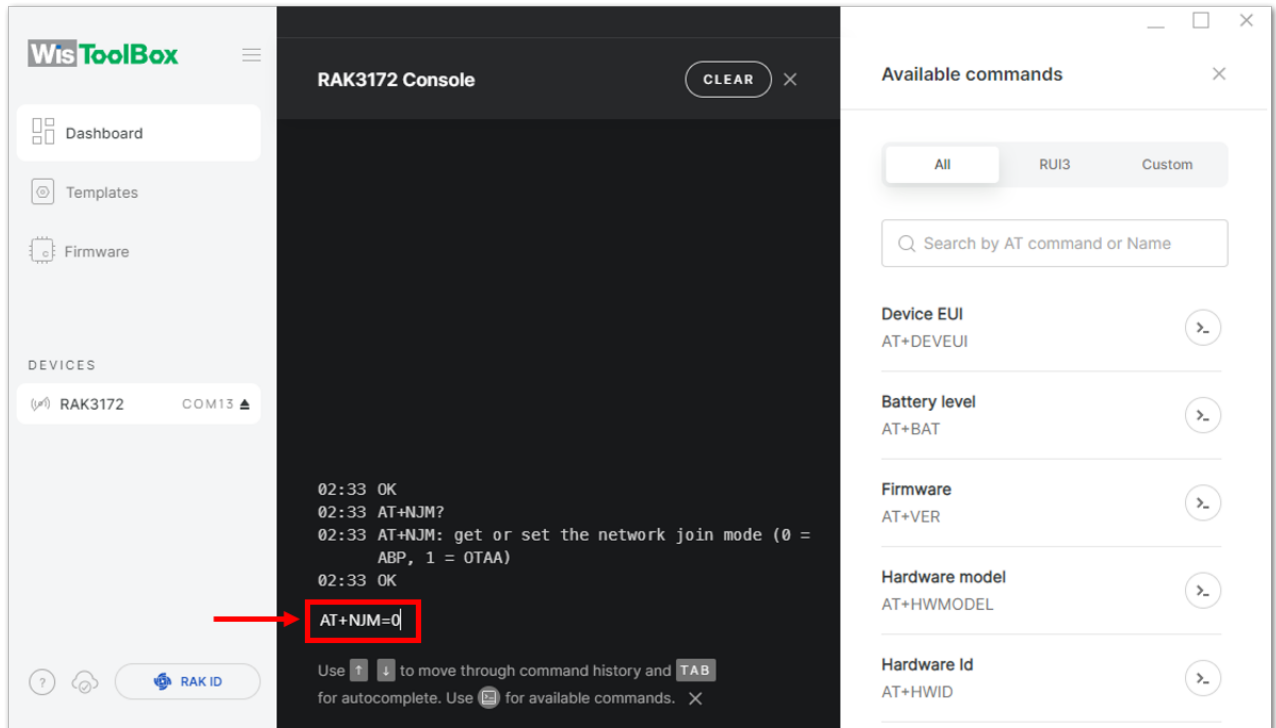

Figure 161: Setting up your Console
8. Then configure the LoRaWAN join mode to **ABP**. You can check what parameter you will input by typing **AT+NJM?** then **Enter** into the console terminal. For **ABP**, you should input **AT+NJM=0** then press **Enter** as shown in **Figure 161**.